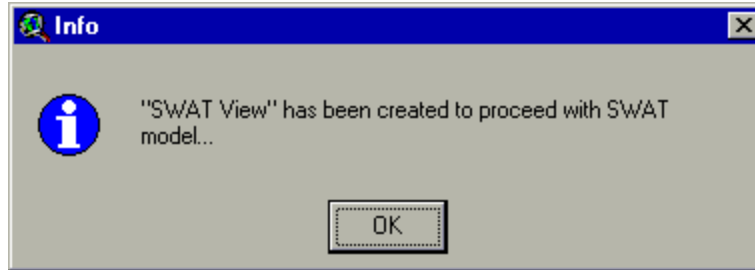

Figure 6.59
- When the HRU distribution has been defined, the *SWAT Views* are automatically created. A message box will appear notifying the user of this fact (Figure 6.59).